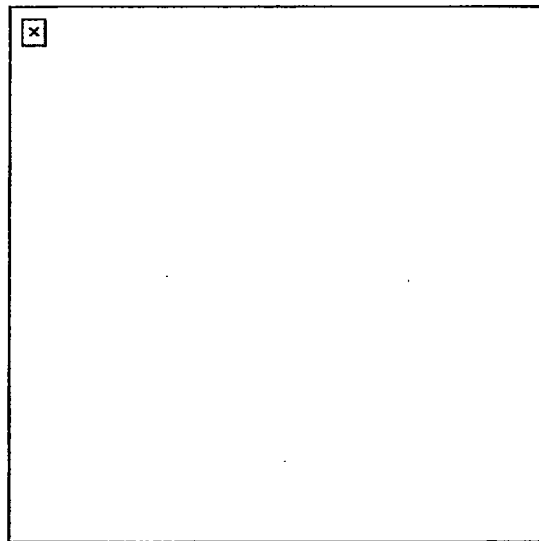

Figure 1. Sighting reticle.
**NOTE:** Ensure the AN/PVS-4 has the proper sighting reticle (Figure 1).
2. Use the sight reticle. When used with the rifle, the AN/PVS-4 sight reticle consists of two parts (Figure 1).